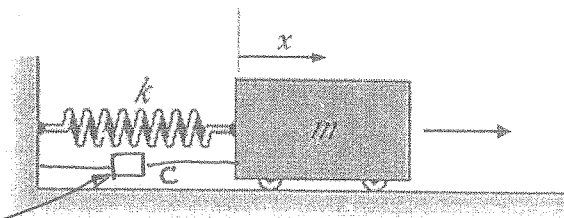

Figure Q5(a): Spring Mass System
- Q5. a) Lyapunov first method (Indirect method) determines the stability nature of the equilibrium state (at the origin) of a nonlinear autonomous dynamic system. The method generalizes the concept of energy; V for a conservative system in mechanics, where a well-known result states that an equilibrium point is stable if the energy is minimum. Thus V is a positive function which has \dot{V} negative in the neighborhood of a stable equilibrium point. Apply Lyapunov first method (stability based on energy) to determine the stability of the spring mass system shown in Figure Q5 (a).